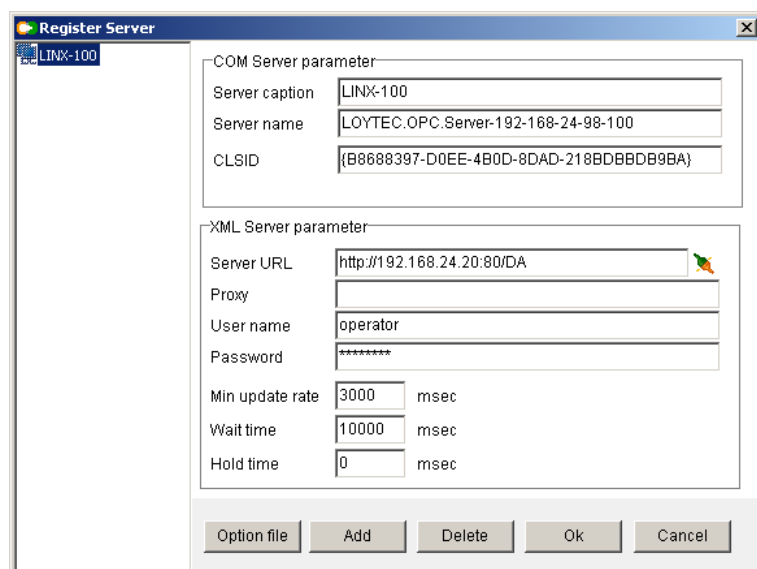

Figure 163: Register Server dialog in the bridge software.
5. A new server entry is added. Enter the information on **Server caption** (this is displayed), **Server name** (this is the COM object name), and the **Server URL** (the URL of the LOYTEC device) as shown in Figure 163.